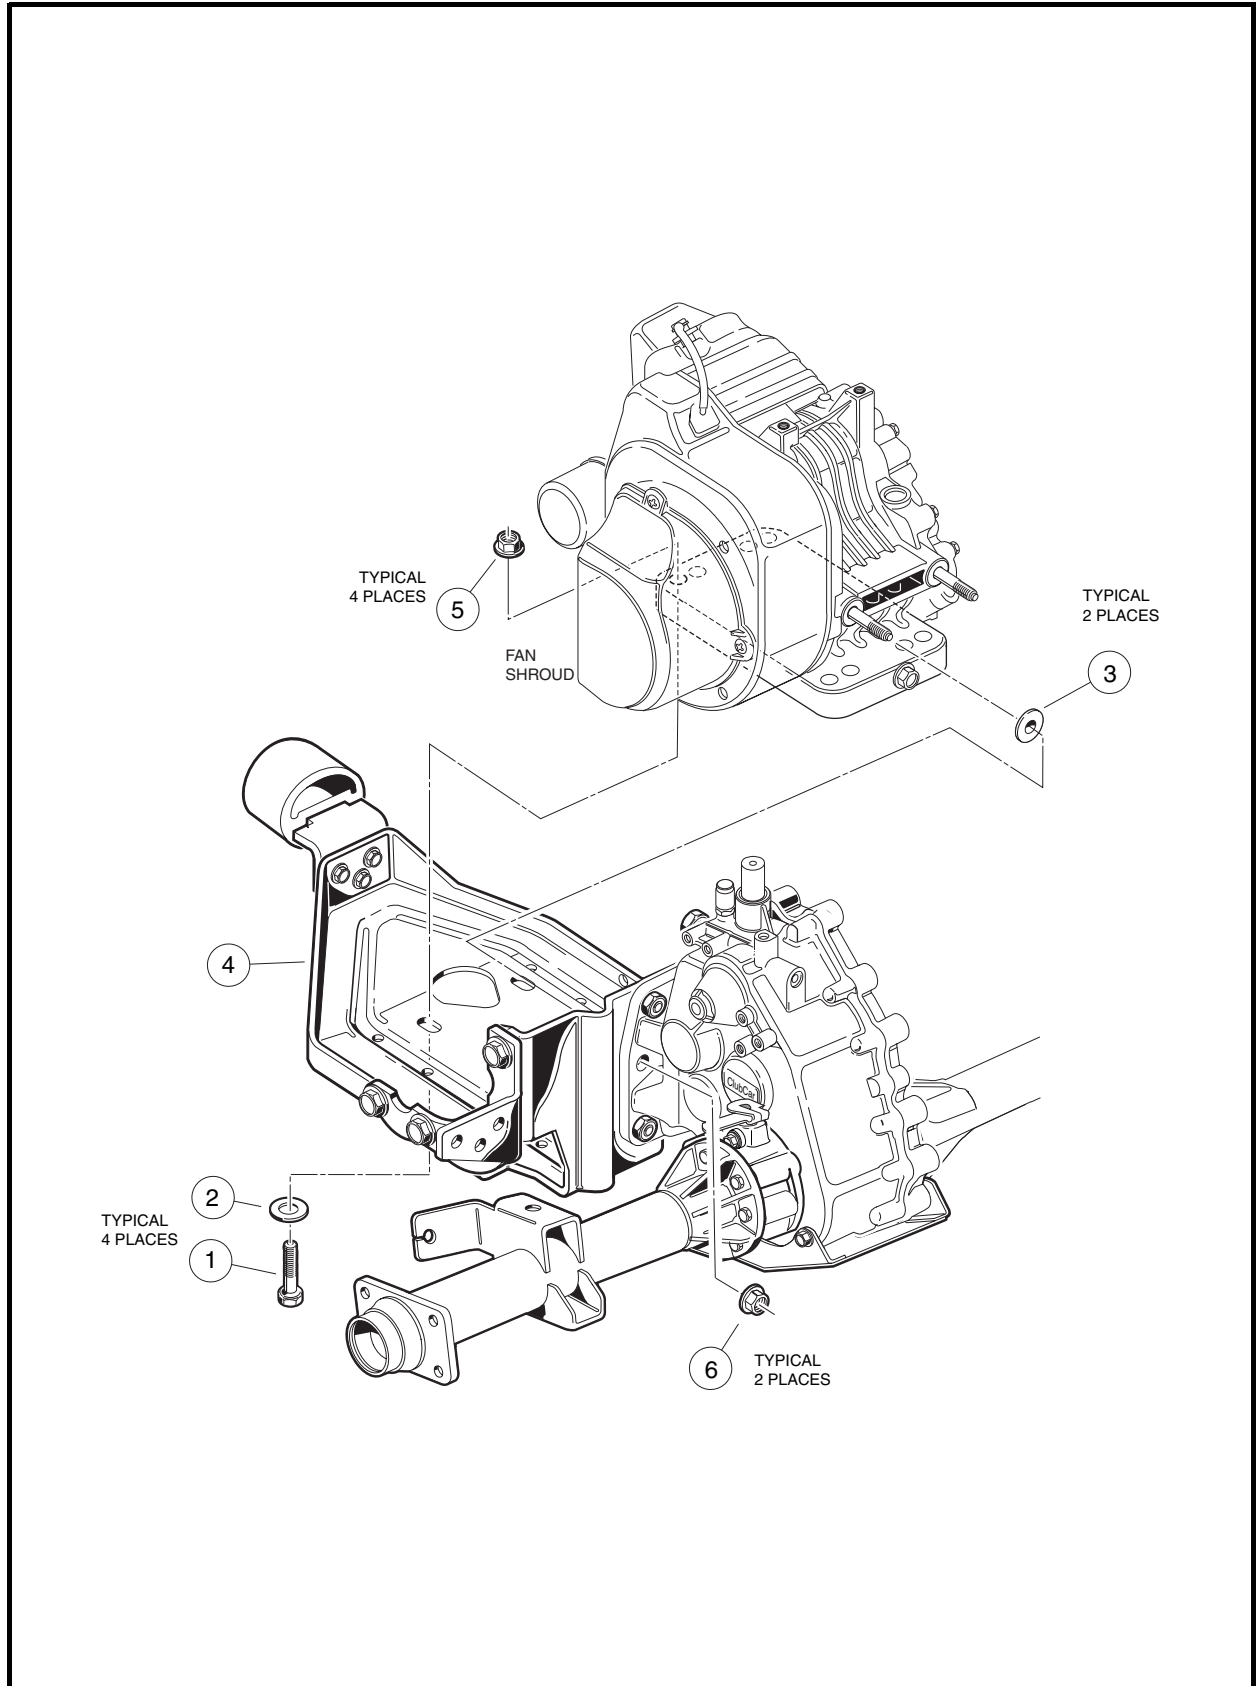

Figure 13-1 Engine Mounting Plate – with MC012C-AS00 Transaxle
5. Remove engine mounting hardware (Items 1, 2, 3, 5 and 6) (**Figure 13-1, Page 13-4**).
1. Remove the four screws and fan shroud (**Figure 13-1, Page 13-4**).
- Place engine onto engine mounting plate and tighten the mounting hardware (1, 2 and 5) to 13 ft-lb (17.7 N·m). Tighten nuts (6) to 17 ft-lb (23.1 N·m) (**Figure 13-1, Page 13-4**).